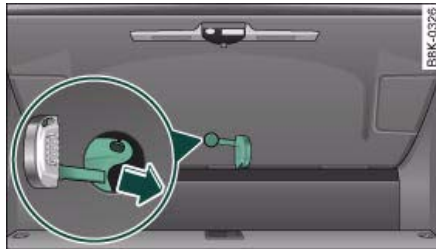

Fig. 44 Luggage compartment: Access to manual release
- Prise off the cover (using the emergency key) ⇒ fig. 44.